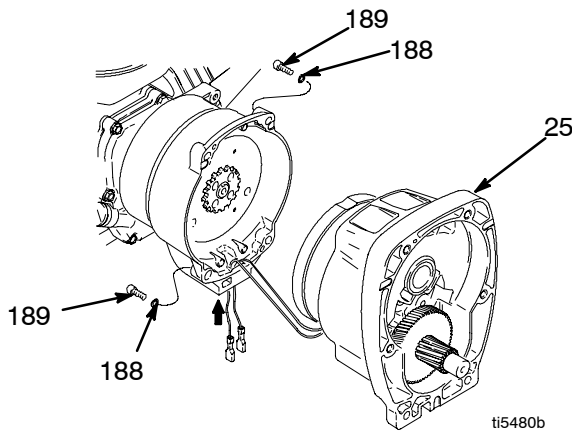
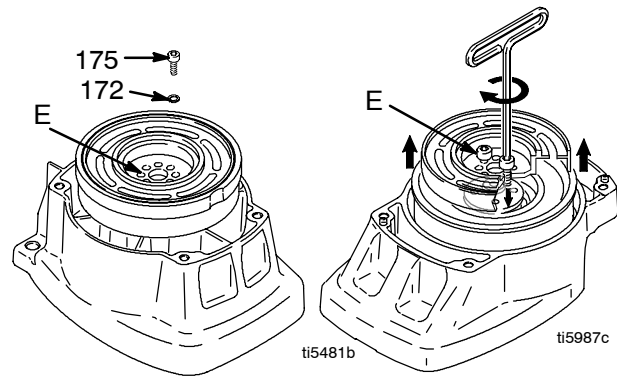

Fig. 4
Fig. 5
4. Fig. 4. Remove four screws (189) and lockwashers (188) and pinion assembly (25).
5. Fig. 5. Place pinion assembly (25) on bench with rotor side up.
6. Remove four screws (170) and lockwashers (172). Install two screws in threaded holes (E) in rotor. Alternately tighten screws until rotor comes off.
9. Fig. 5. Place pinion assembly on bench with rotor side up.
10. Apply locktite to screws. Install four screws (170) and lockwashers (172). Alternately torque screws to 125 in-lb until rotor is secure. Use threaded holes to hold rotor.
11. Fig. 4. Install pinion assembly (25) with five screws (189) and lockwashers (188).